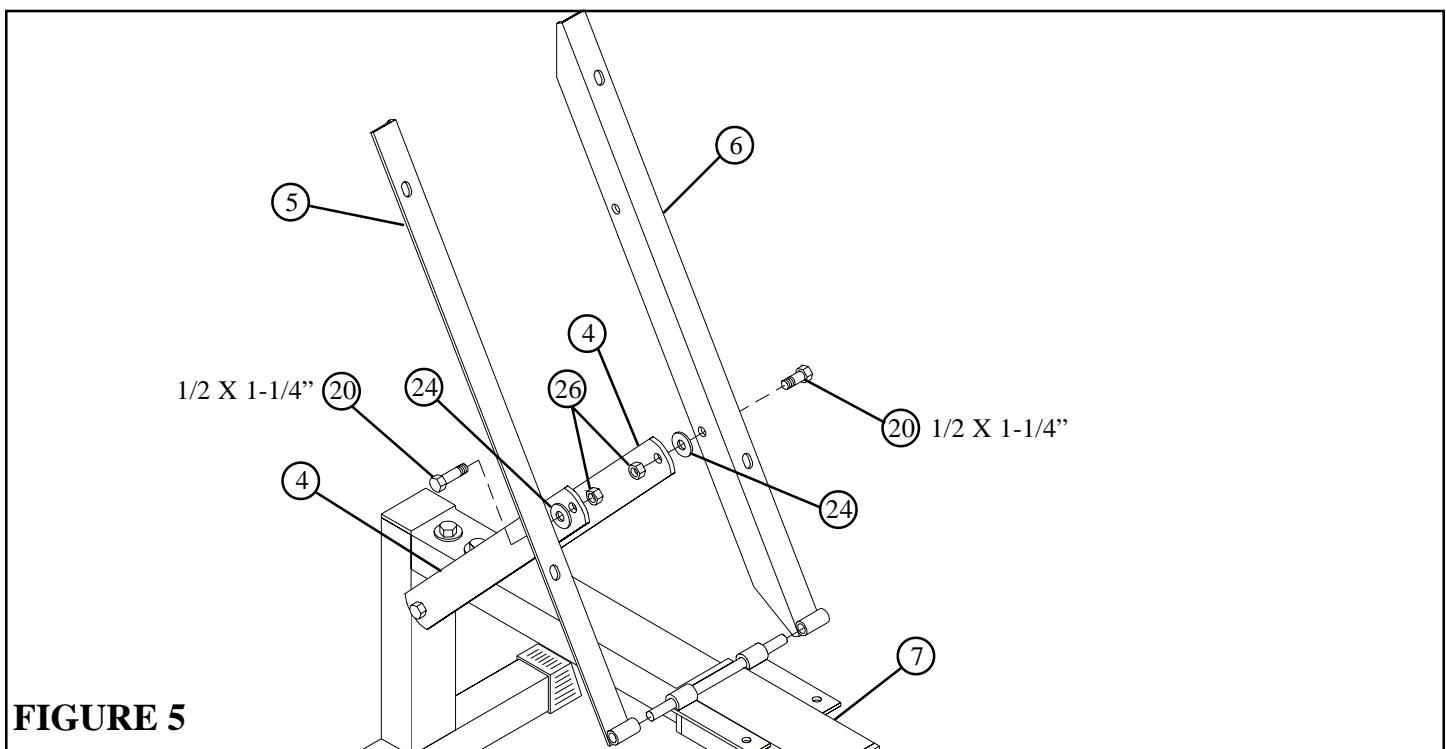

**FIGURE 4**
- Attach two 1/4 X 2 X 16-1/2" PLATES (4) to the bushing on the SWIVEL PLATE (2) using one 1/2 X 6-1/2" BOLT (22) and one 1/2" NYLOCK NUT (26). See FIGURE 4.
- Slide two HINGE TABS (13) over the shaft on the WOLFF SLEEVE (7) as shown in FIGURE 4.